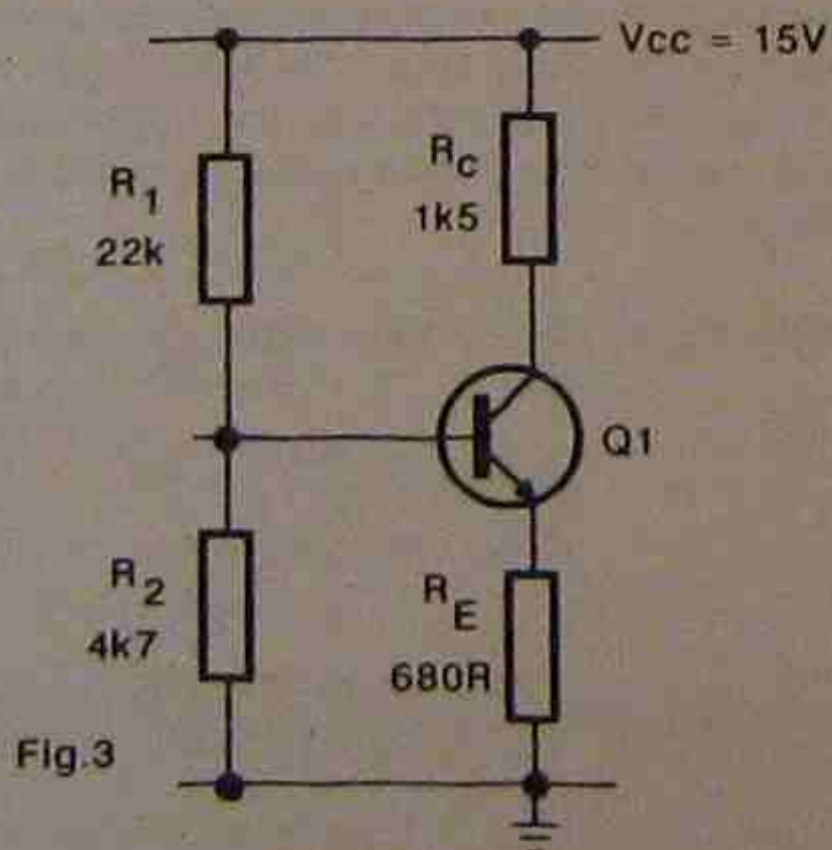

Fig.3
3. Calculate the base voltage (V_B), emitter voltage (V_E) and the collector voltage (V_C) for the circuit of Fig.3.
4. Give two reasons why the circuit of Fig.3 is more stable against changes in temperature and β than Figs.1 or 2.